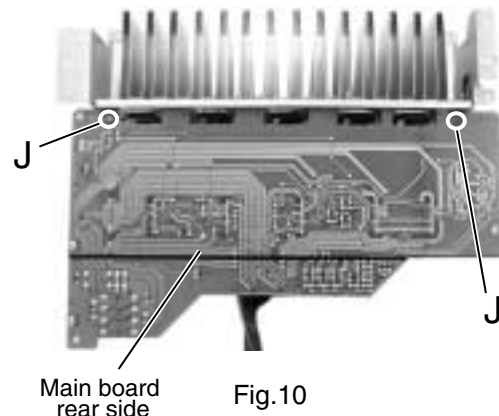

Fig.10
**■ Removing the Heat sink (See Fig.10 to 11)**